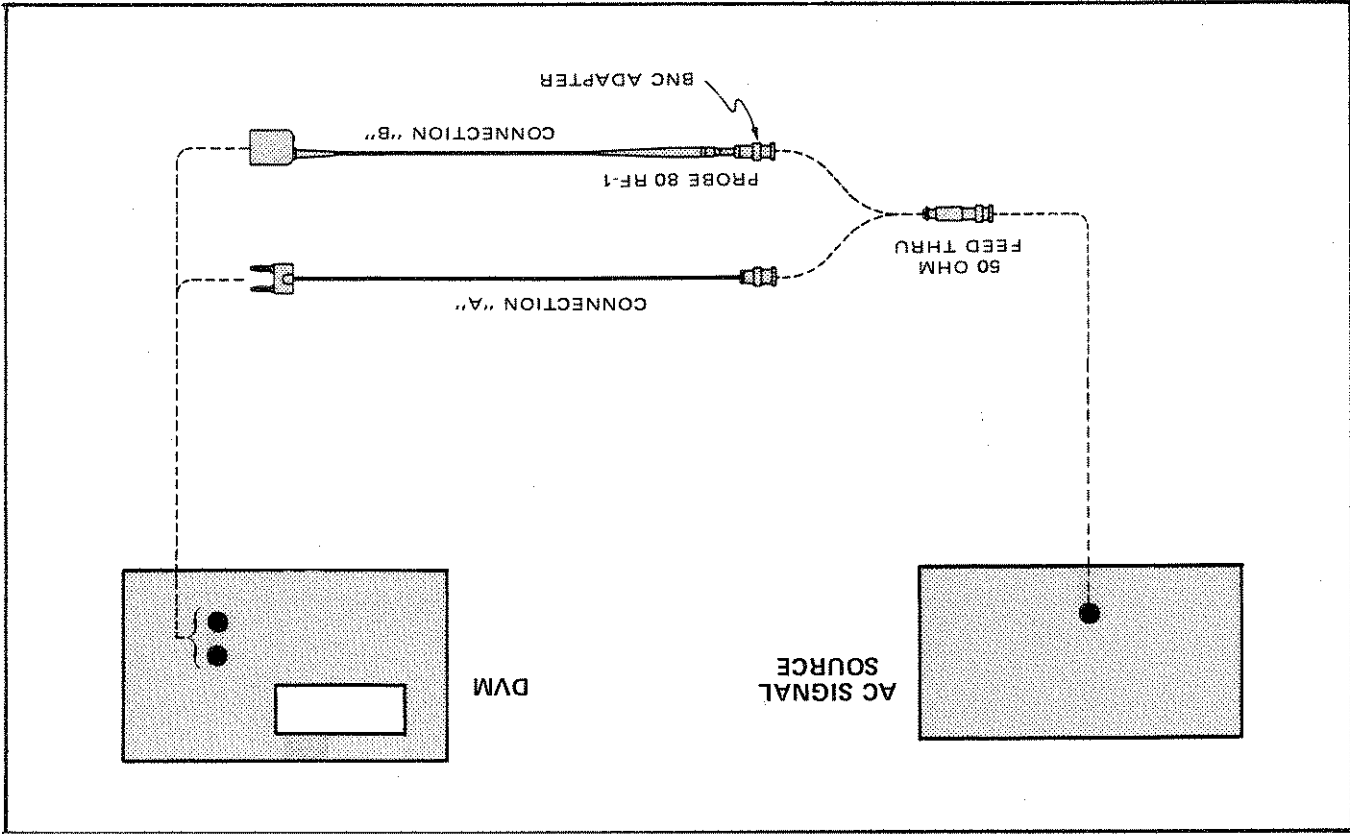

Figure 6-11. LOW FREQUENCY RESPONSE CHECK
- 6-45. Connect equipment as shown in Figure 6-11, and perform the following steps.